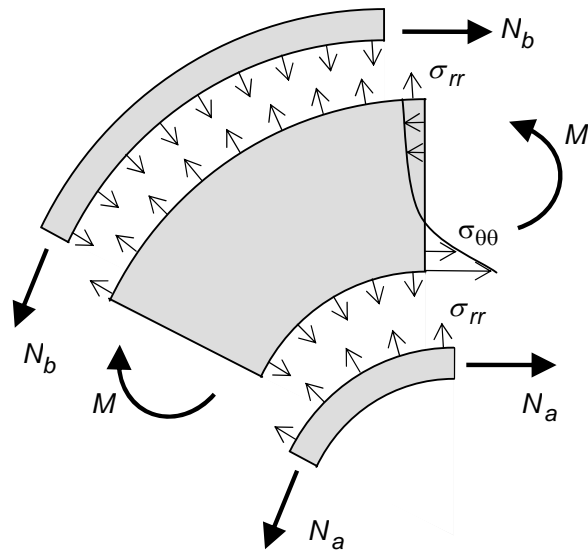

Figure 2. Force flow in the section parts
- c** Formulate the boundary conditions of the web part such that the differential equation can be solved (Fig. 2).